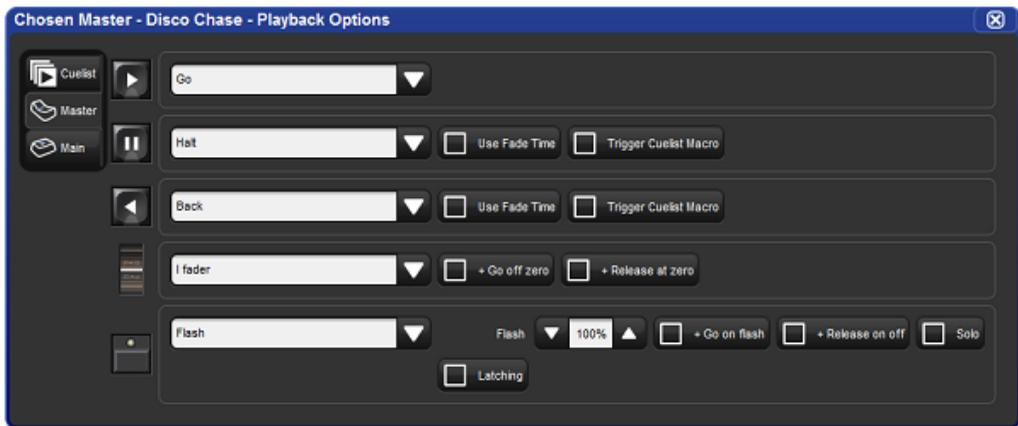
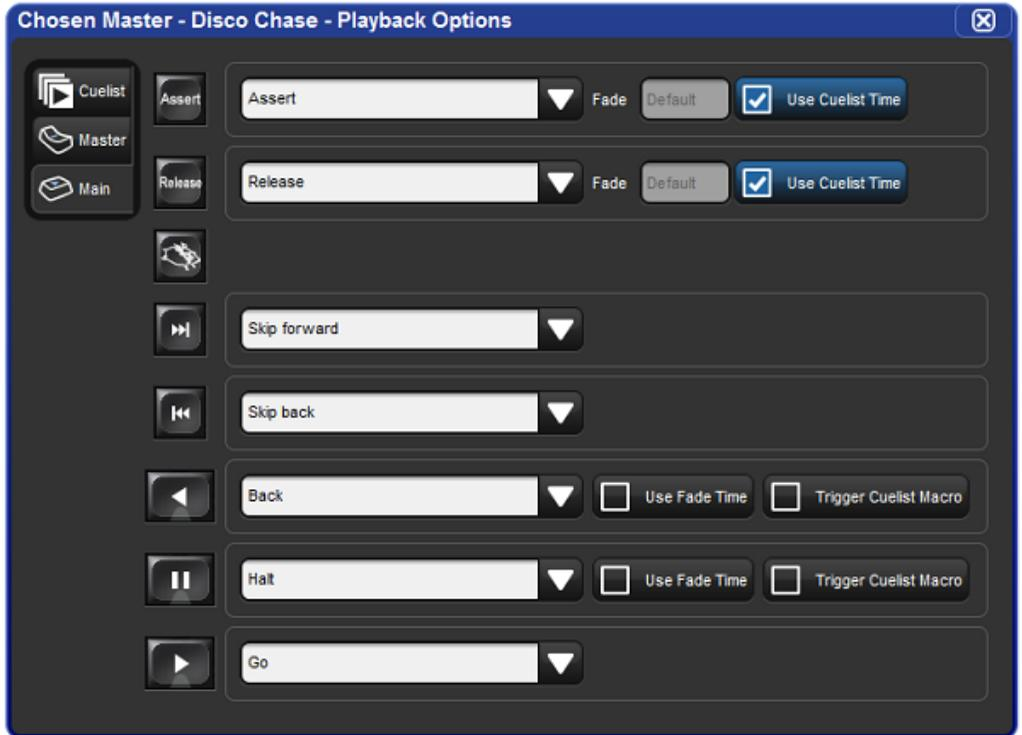

Figure 17.10. The Master pane of the Cuelist Options window
Figure 17.11. The Main Controls pane of the Cuelist Options window
3. Under Controls, select the Master or Main Controls pane; see *Figure 17.10*, “The Master pane of the Cuelist Options window” and *Figure 17.11*, “The Main Controls pane of the Cuelist Options window”.